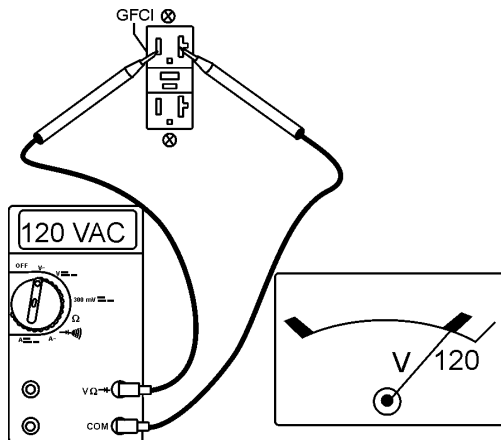

Figure 15. 120V/GFCI Receptacle
- Read the voltmeter on the front panel of the generator (Figure 15) and verify that 120 VAC is present at the GFCI duplex receptacle. For additional verification of voltage, an external voltmeter can be used to measure the output voltage as shown in Figure 15.